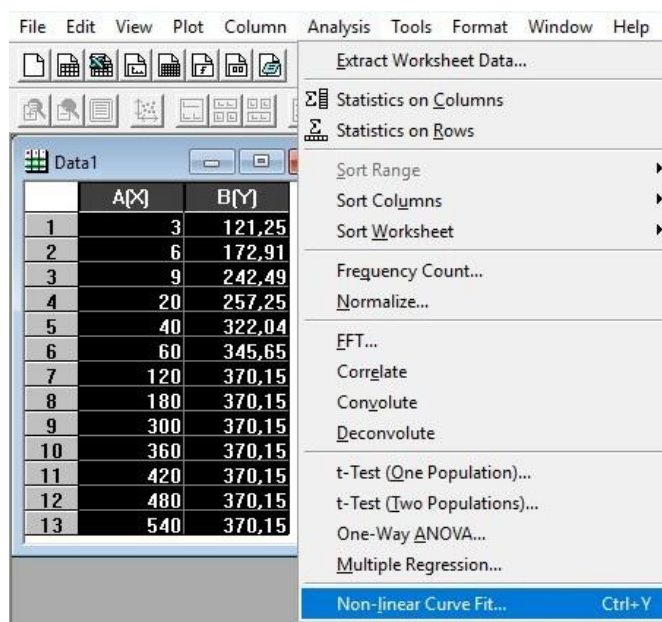

Figure 16S. Selecting the experimental data and Non-linear Curve fit in the analysis tab
2. Select the experimental data in the spreadsheet and access the tool: Go to the Analysis tab in the top menu, then navigate to the fitting option and select non-linear curve fit (Figure 16S).